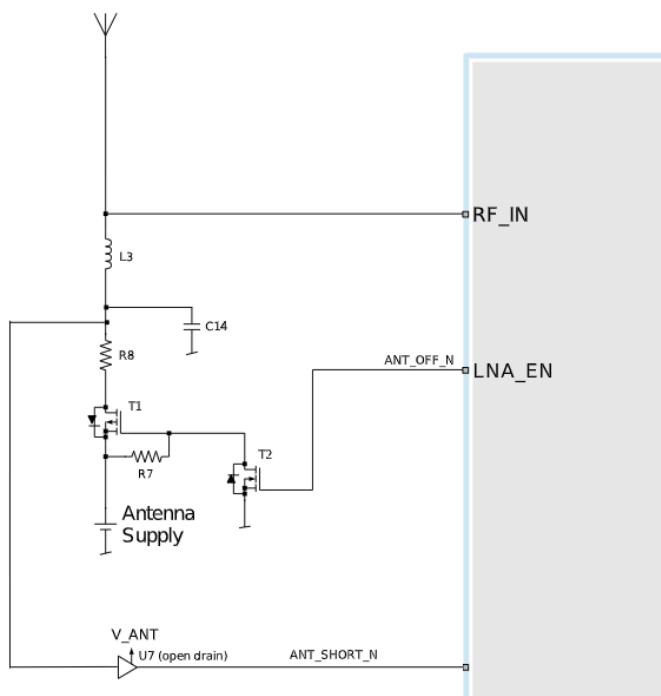

Figure 11: MAX-M10S two-pin antenna supervisor
Figure 11 presents the required two-pin antenna supervisor circuit and subsequent sections describe how to enable and monitor each feature.
Table 16 presents a list of the external components required for implementing the two-pin antenna supervisor design in Figure 11. Refer to External components for the recommended parts and specification.
-  The open drain buffer shown in Figure 11 is not needed if V_ANT is the same voltage level as V_IO.